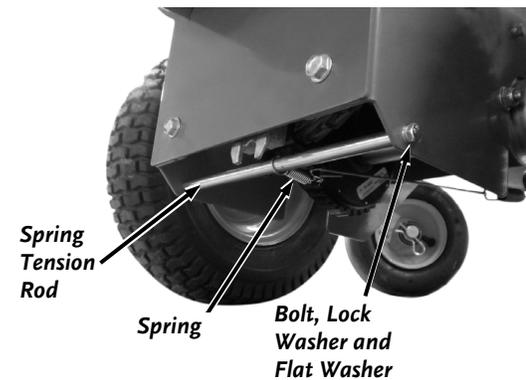

Figure 45
5. Remove the Bolts, Lock Washers and Flat Washers that Secure the Spring Tension Rod to the frame using a 10mm Wrench (**Figure 45**). Use Pliers to stop the Rod from turning while you loosen the Bolts. Remove the Rod from the Spring and set aside.
17. Route the Spring Tension Rod through the Spring and Reattach to the Frame (**Figure 45**).